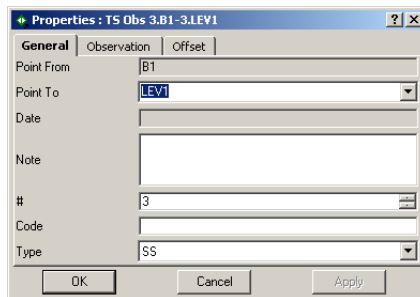

Figure 4-68. TS Properties – General Tab
- On the **Properties** dialog box, click the *General* tab (Figure 4-68).